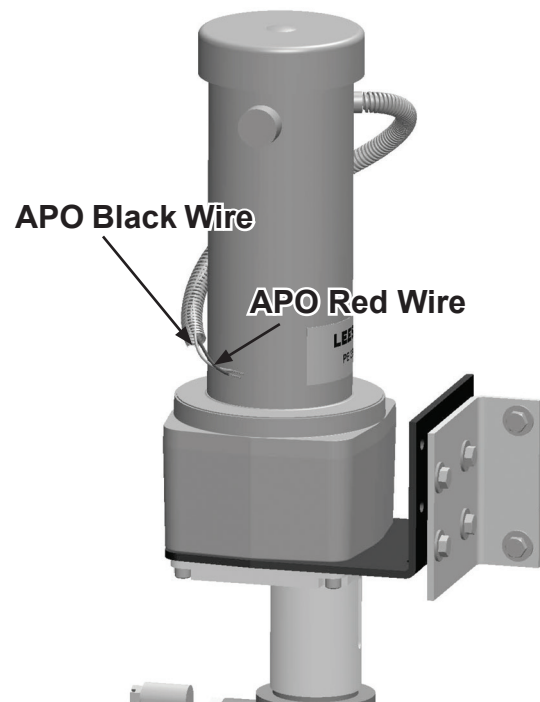

Figure 31. Connect Fuse to Red APO Wire; Route Black APO Wire to Ground Lug on Power Pack
5. Locate the red wire within the split loom (wiring harness). Connect it to the inline fuse (with the fuse). Connect the fuse to the red APO motor wire (see Figure 31).